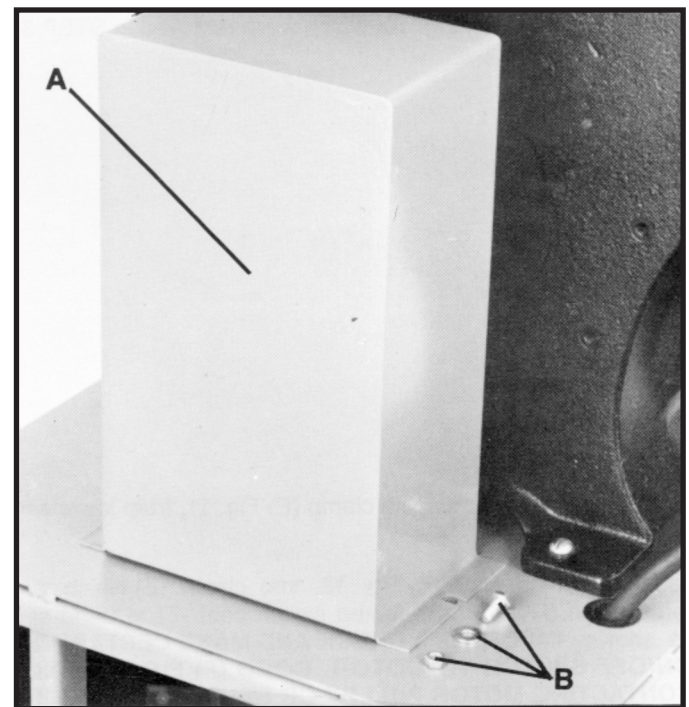

Fig. 8
Assemble belt and pulley guard (A) Fig. 8, to the top of the stand and surrounding the driven pulley with two  $\frac{3}{4}$ -20 x  $\frac{5}{8}$  hex head screws, flat washers and hex nuts (B).